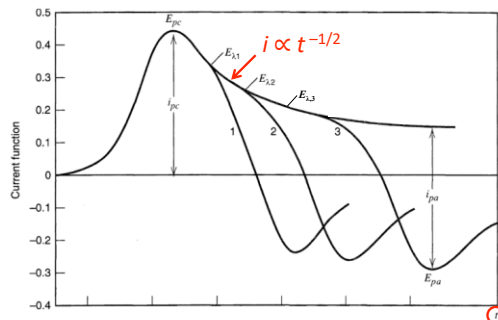

Figure 6.5.1 Cyclic voltammograms for reversal at different E_A values, with presentation on a time base.
Figure 6.5.2 Cyclic voltammograms under the same conditions as in Figure 6.5.1, but in an i - E format. E_0 of (1) $E_{1/2} - 90$ mV; (2) $E_{1/2} - 130$ mV; (3) $E_{1/2} - 200$ mV; (4) for potential held at $E_{1/2}$ until the cathodic current decays to zero. [Curve 4 results from reflection of the cathodic i - E curve through the E axis and then through the vertical line at $n(E - E_{1/2}) = 0$. Curves 1, 2, and 3 result by addition of this curve to the decaying current of the cathodic i - E curve (1', 2', or 3').]
Figure 6.5.2 Cyclic voltammograms under the same conditions as in Figure 6.5.1, but in an i - E format. E_λ of (1) $E_{1/2} - 90 \text{ mV}$; (2) $E_{1/2} - 130 \text{ mV}$; (3) $E_{1/2} - 200 \text{ mV}$; (4) for potential held at $E_{1/2}$ until the cathodic current decays to zero. [Curve 4 results from reflection of the cathodic i - E curve through the E axis and then through the vertical line at $n(E - E_{1/2}) = 0$. Curves 1, 2, and 3 result by addition of this curve to the decaying current of the cathodic i - E curve (1', 2', or 3').]
Figure 6.5.2 Cyclic voltammograms under the same conditions as in Figure 6.5.1, but in an i - E format. E_1 at (1) $E_{1/2}$ - 90 mV; (2) $E_{1/2}$ - 130 mV; (3) $E_{1/2}$ - 200 mV; (4) for potential held at $E_{1/2}$ until the cathodic current decays to zero. [Curve 4 results from reflection of the cathodic i - E curve through the E axis and then through the vertical line at $n(E - E_{1/2}) = 0$. Curves 1, 2, and 3 result by addition of this curve to the decaying current of the cathodic i - E curve (1', 2', or 3').]